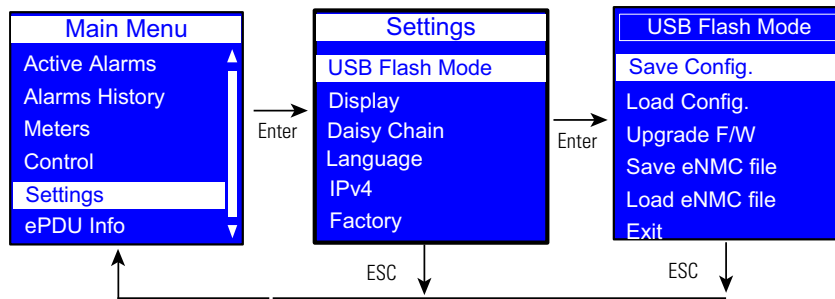

Figure 64. Example Save Config. Display
6. Select Save Config (see Figure 64).